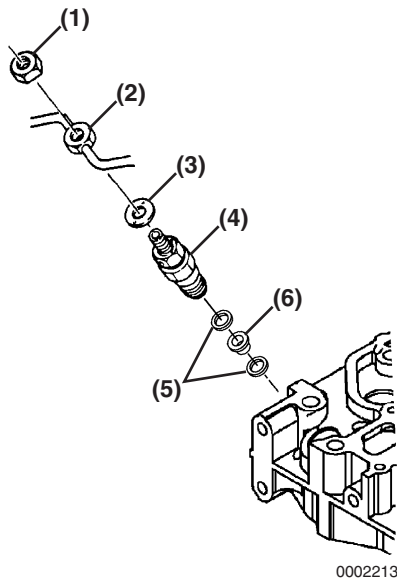

Figure 7-30
4. Remove nut (**Figure 7-30, (1)**). Remove the fuel return line (**Figure 7-30, (2)**) and copper washer (**Figure 7-30, (3)**) from the fuel injectors. *See Removal of Fuel Return Line on page 7-12.*
5. Remove the fuel injectors (**Figure 7-30, (4)**).
- 6. Remove the injector nozzle gaskets (**Figure 7-30, (5)**) and protector (**Figure 7-30, (6)**) from the cylinder head.